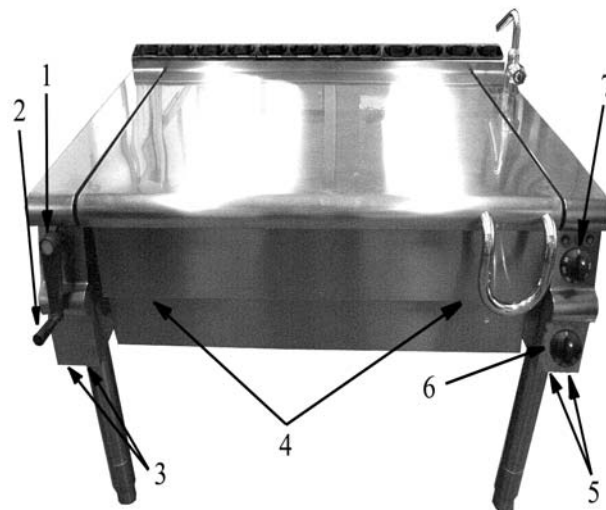

Fig. 7
- unscrew the fixing screws item 5 in Fig. 7;
- take out the fixing plug of the handle item 1 in Fig. 7;
- take off the handle item 2 in Fig. 7 from rod;
- unscrew the fixing screws item 3 in Fig. 7;
- unscrew the fixing screws item 4 in Fig. 7;
- remove the knob (item 7 in Fig. 7);